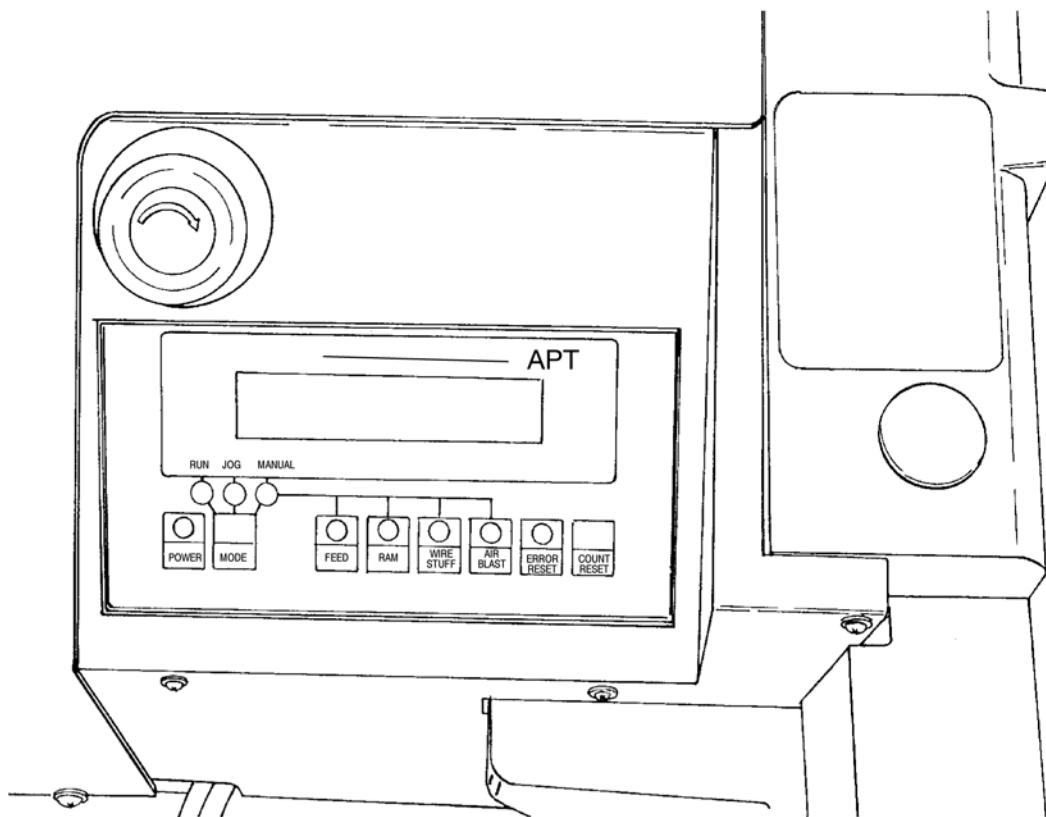

Figure 13
3. Depress the **POWER** button. The light above the **POWER** button will indicate power is "ON." Refer to Figure 13.
3. Depress the POWER pushbutton (see Figure 13). The indicator lamp above the pushbutton will light.
3. Depress the POWER pushbutton (See Figure 13). The indicator lamp above the POWER pushbutton will light.